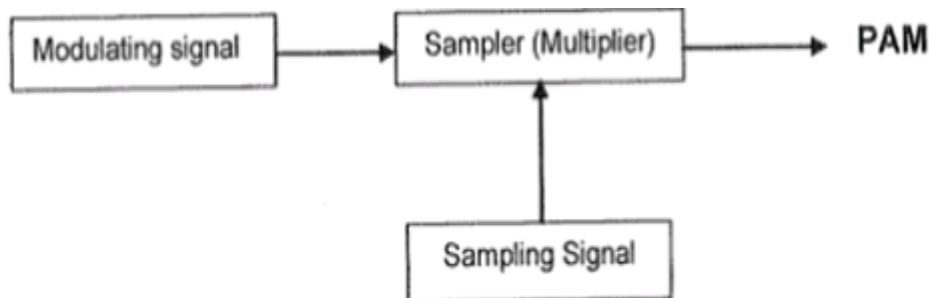

Fig1. Generation of PAM signal
- The Fig1 shows the generation of PAM signal from the sampler which has two inputs i.e. modulating signal and sampling signal or carrier pulse.